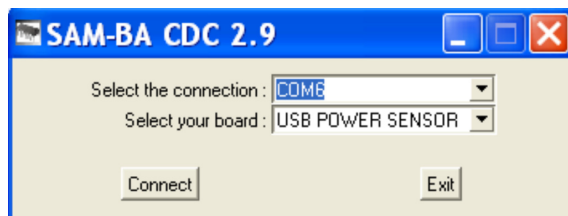

Figure B-16. SAM-BA Configuration Dialog
8. The SAM-BA connection dialog appears as shown in Figure B-16. Select the connection and board as follows: